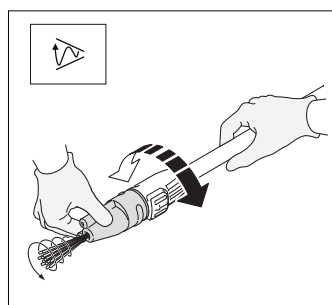

Fig. 19
- Turbo Setting: **(Fig. 19)** The turbo nozzle has a pulsating, rotating flow of high pressure water spray. Use on hard, uneven surfaces like concrete and patio bricks. Place the nozzle at a forty five degree angle and about a foot away from the surface. Adjust as needed for the best results.